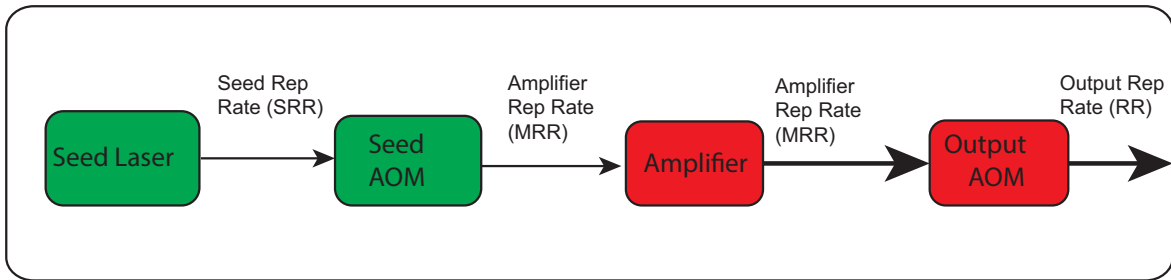
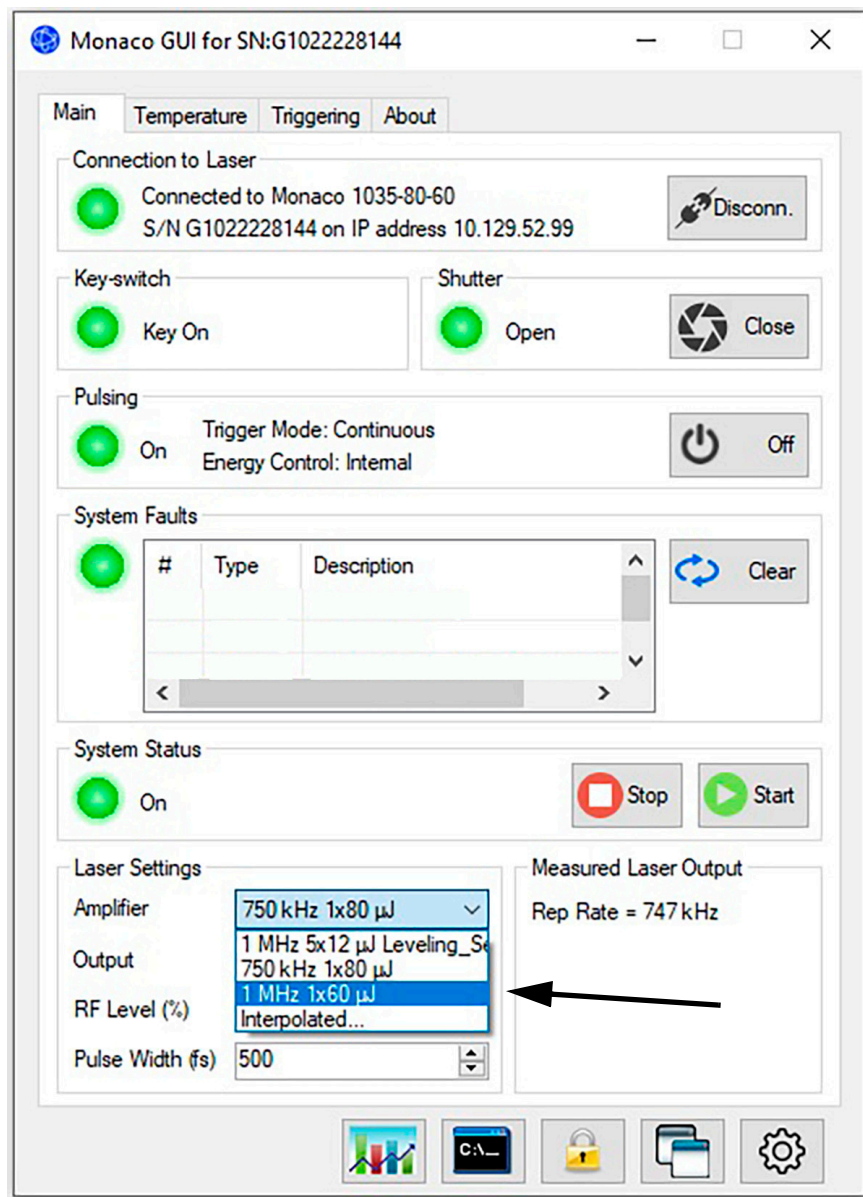
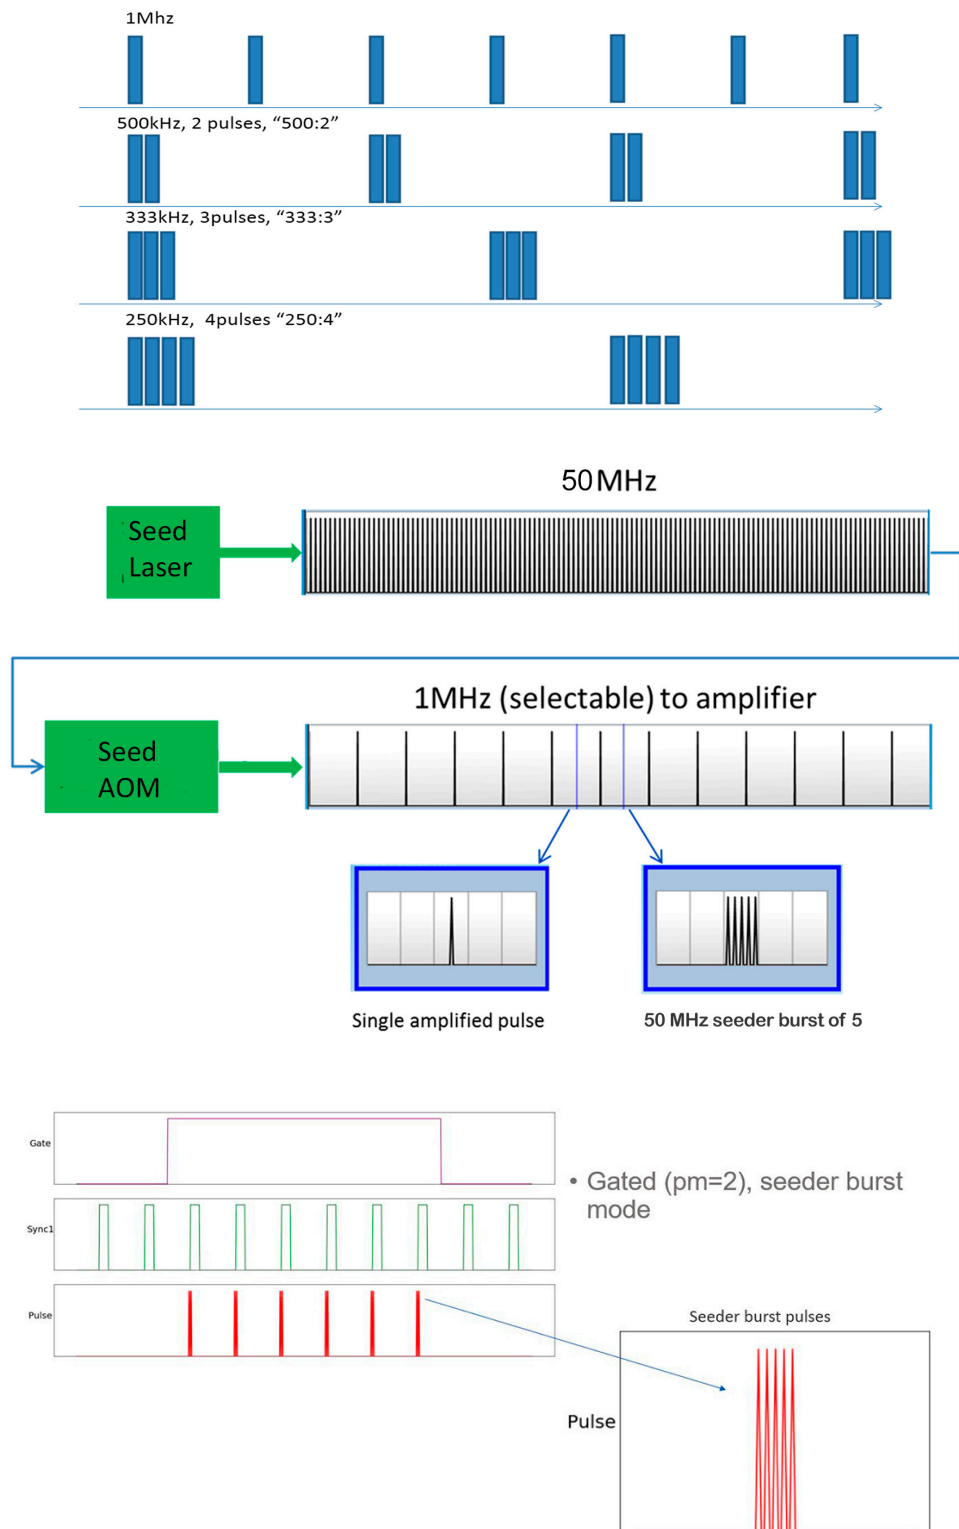

Figure 5-9. Laser Schematic and Laser Repetition Rates
Figure 5-11. Output Drop Down Menu
Figure 5-12. Seeder Burst Mode
The Monaco laser is operated at a steady pulse repetition rate set by the amplifier repetition rate (MRR) (see Figure 5-9 on page 55). The amplifier repetition rate can be selected through the Coherent GUI Main menu (see Figure 5-11 on page 57), or through the serial command SET. For systems with the Interpolated mode option, any repetition rate between 1 to 4 MHz can also be entered directly into the GUI or through the serial command SET.
For systems with the Seeder Burst mode option, multiple pulses are grouped into a short time window. The separation between pulses in the seeder burst is determined by the seed laser repetition rate (SRR) and is approximately 20 nsec (see Figure 5-9 on page 55). The exact separation between pulses can be calculated from $1/\text{SRR}$, where the seed repetition rate can be found by using the query ?SRR from the Command Prompt
(See “About Menu Tab” (p. 87)). For example, with a seed repetition rate of 50MHz the pulse separation would be 20nsec. The maximum output power in Seeder Burst Mode is still limited to 40W in a 1035-40 system. The number of pulses in each seeder burst can be chosen from the values in the Coherent GUI Amplifier Rep Rate drop down menu (see “Output Drop Down Menu” (p. 57)). If a seeder burst contains only one pulse, the laser operates the same as in Continuous Mode and it is simply a continuous stream of single pulses at the amplifier repetition rate (MRR). For example, at a 1 MHz amplifier repetition rate, changing the number of seeder burst pulses from 1 to 2 will decrease the amplifier repetition rate to 500kHz while maintaining 40W output power (pulse energy is still 40μJ). The repetition rate and the number of pulses in a seeder burst can be specified using the Coherent GUI drop down table (see Figure 5-11), or through the serial command SET. If the SET command is used (see “SET Command” (p. 118) for a detailed description), the amplifier repetition rate and pulses per seeder burst entered are limited to the options displayed in the GUI drop down menu. See Figure 5-12 below for an illustration of Seeder Burst Mode.
Divided Mode enables Monaco laser output at lower pulse repetition rates by using the AOM to reduce the output laser pulse (or seeder burst) repetition rate by a frequency/rep rate divisor (RRD) chosen by the user. For example, for an amplifier laser pulse repetition rate of 1MHz and setting the divisor to 4, the output repetition rate would be 250kHz, the average output power would be divided by 4, and pulse energy and pulse width would be unchanged. To utilize Divided Mode, simply choose the desired repetition rate from the “Output” drop down menu in the Laser Settings window of the Main Tab of the GUI (see Figure 5-11). The divisor can also be specified by choosing a frequency divider through the serial command RRD. The value for the divisor can be from 1 - 65,535. Note that the pulse energy of the laser will not change in Divided Mode, only the repetition rate and output power.
Divided and Gated Mode enables pulsing by applying a TTL signal externally through the Gate 1 port similar to Gated Mode, and at a lower output pulse repetition rate similar to Divided Mode. To utilize Divided and Gated Mode the External Triggering button from the GUI Triggering Menu must be selected (see “Triggering Tab Selections” (p. 48)), or by using the serial command PM=3. Again the repetition rate can be chosen from the Output drop down menu (see Figure 5-11), or by the serial command RRD. The value for the divisor can be from 1 - 65,535.
In Burst and Divided Mode the number of pulses (or seeder bursts) emitted in a burst is initiated by the Gate 1 TTL signal and controlled by the Burst Pulses (BP) setting similar to Burst Mode, and at a lower output pulse repetition rate similar to Divided Mode. To utilize Burst and Divided Mode the External Triggering and Burst Mode buttons from the GUI Triggering Menu must be selected (see “Triggering Tab Selections” (p. 48)), or by using the serial command PM=5. As in Divided Mode the repetition rate can be chosen from the Output drop down menu (see Figure 5-11), or by the serial command RRD. The value for the divisor can be from 1 - 65,535. Note that if the gate period (when the TTL signal is high) is not sufficiently long then some pulses in the burst may be cut off. For example if RRD=4 and the output rep rate (RR) is 250kHz with BP set to 10 pulses, then the gate period must be at least 40μs to allow all the pulses to exit the laser.